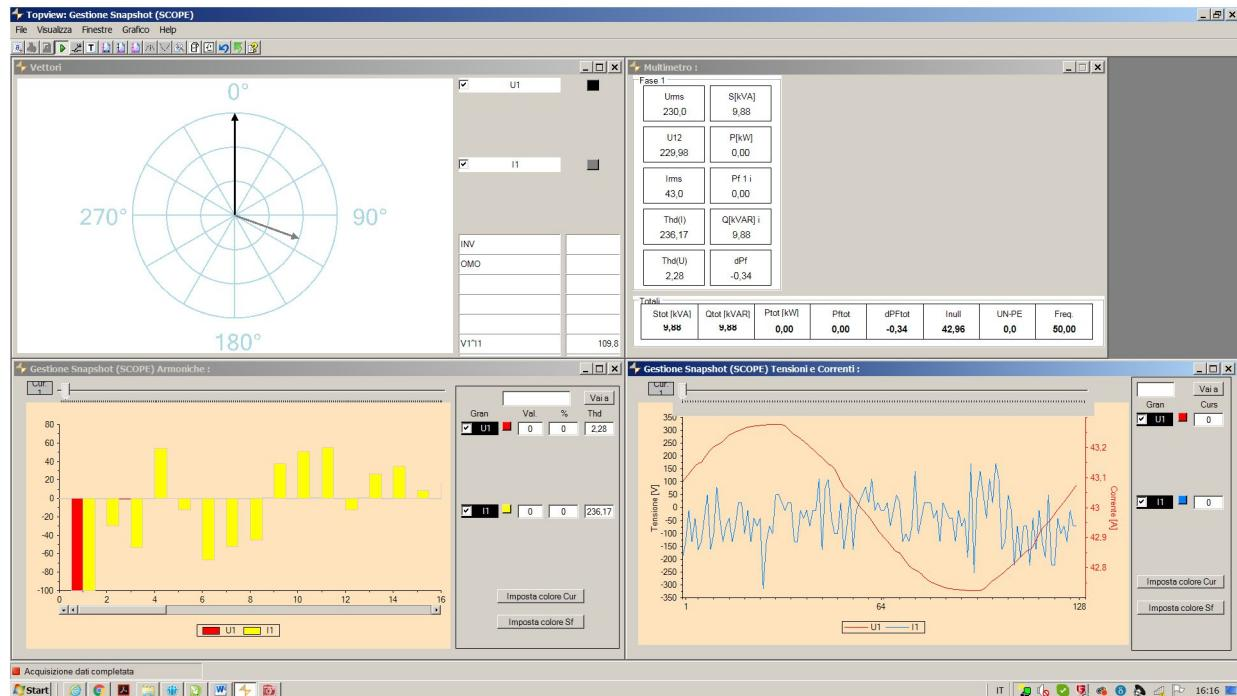

Fig. 20: Real-time visualization of parameters
- Click on the "Next" button to open the real-time visualization of values in the form of tables, waveforms, harmonics graphs and vector diagram, as shown in the Fig. 20